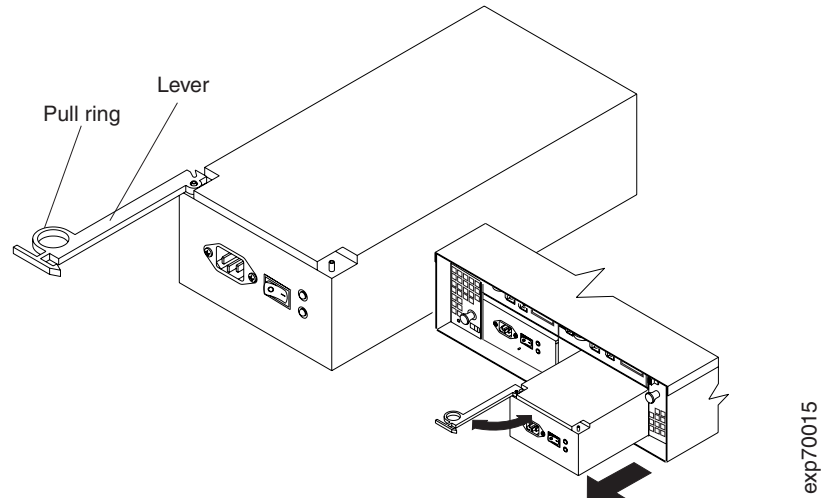

Figure 11. Removing a power supply CRU
2. Pull the lever open and remove the power supply as shown in Figure 11.